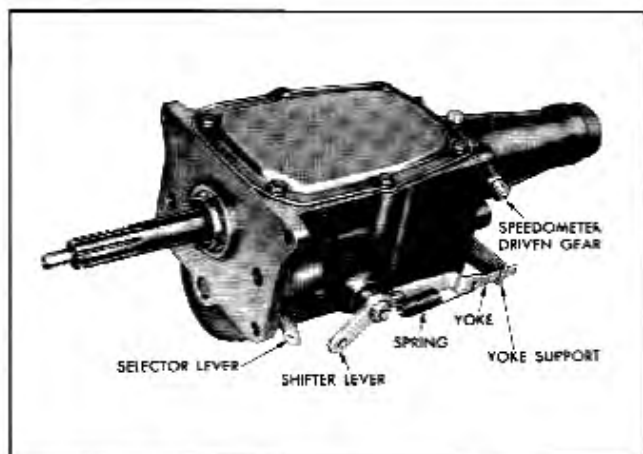

Fig. 7-11 Synchro-Mesh Transmission
3. Remove speedometer driven gear, then remove rear bearing retainer, gasket, and shifter lever spring yoke support from transmission case (Fig. 7-11).